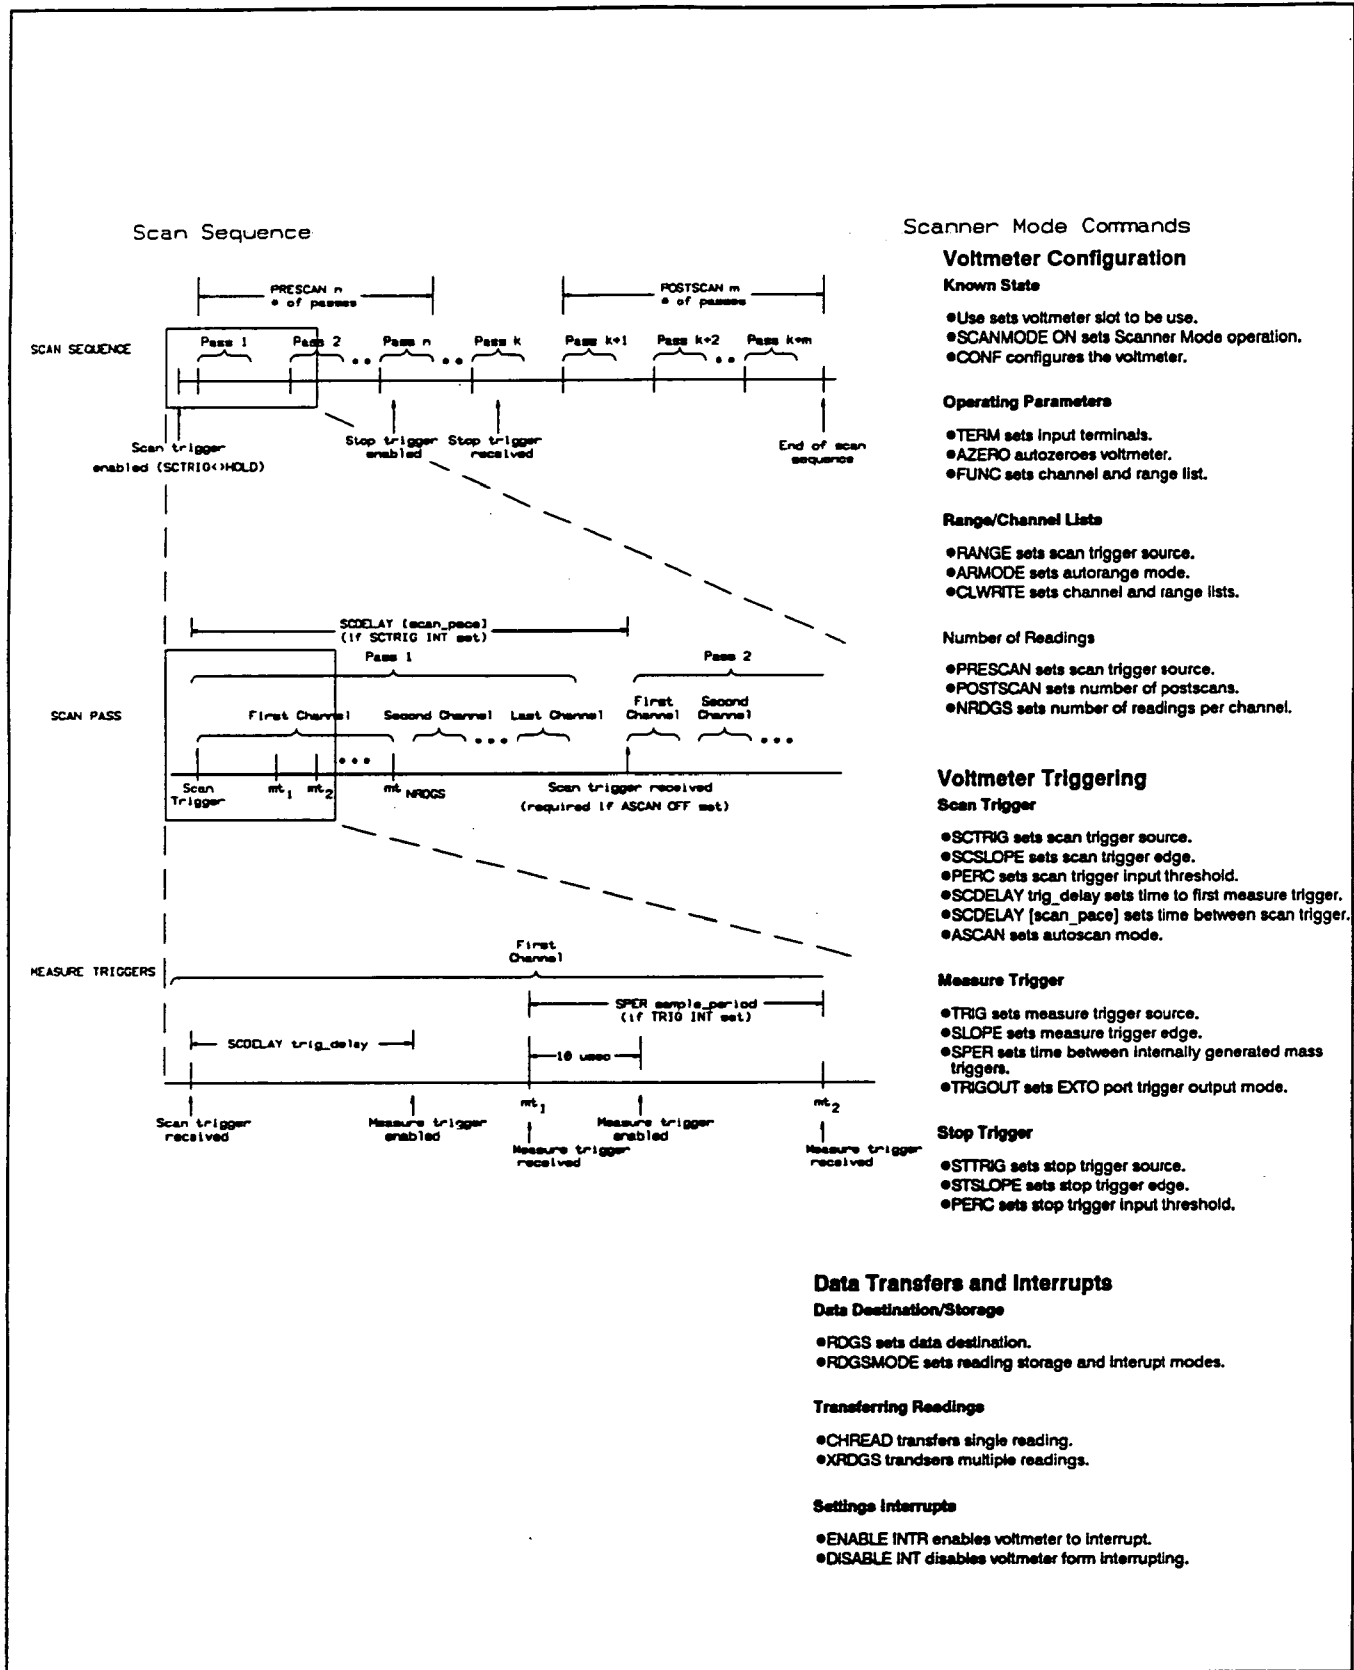

Figure 5-8. Voltmeter Scan Sequence
**Voltmeter Operation** Figure 5-8 shows the voltmeter scan sequence and summarizes applicable commands for Scanner Mode ribbon cable operation. The scan sequence does not include voltmeter configuration and reference measurements made by CONF.
The commands in Figure 5-8 are grouped into the three categories discussed in this section: voltmeter configuration, voltmeter triggering, and data transfers and interrupts. Refer to "Low-Level Commands" (Table 5-13) for further information on the commands. A description of the scan sequence follows.
As noted, a scan pass consists of NRDGS measurements on each channel in the scan list as defined with CLWRITE. Each measurement is initiated by a measure trigger (*mt*1, etc. in Figure 5-8). If NRDGS 1 is set, one measurement is made on each channel. For NRDGS 1, NRDGS measurements are made on each channel.